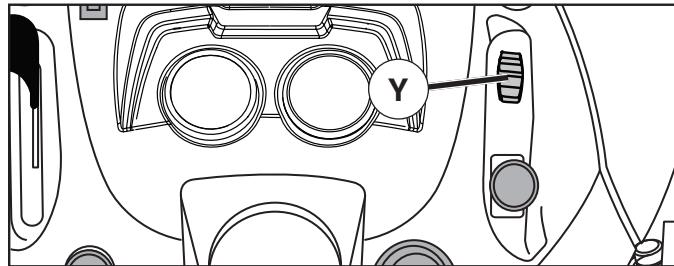

Fig. 14
## TO USE DIFFERENTIAL LOCK CONTROL (Y) (See Fig. 14)